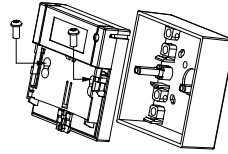

Fig. 5: Body and bottom fixing screws
3. Screw the front panel to the bottom with the CS3 x 30 screws supplied (see Fig. 5).